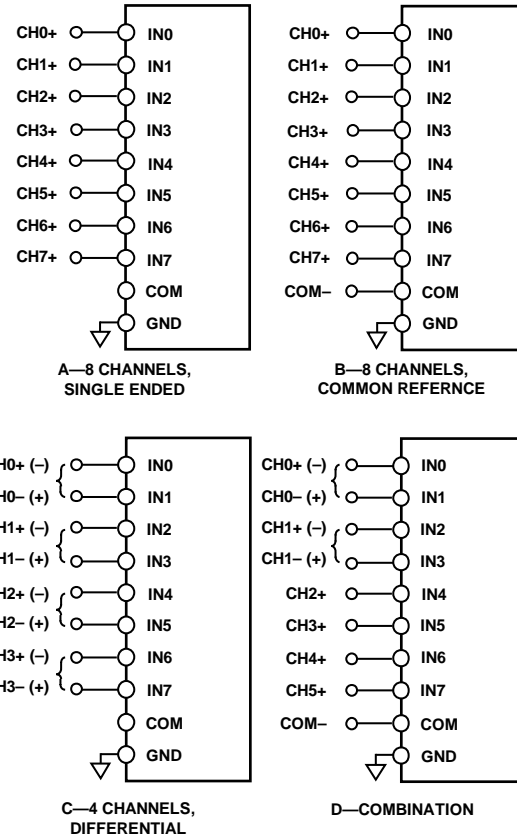

Figure 32. Multiplexed Analog Input Configurations
Figure 32 shows the different methods for configuring the analog inputs with the configuration register, CFG[12:10]. Refer to the Configuration Register, CFG section for more details.
- Figure 32 (A), single-ended referenced to system ground; CFG[12:10] = 1112. In this configuration, all inputs (IN[7:0]) have a range of GND to  $V_{REF}$ .
- Figure 32 (B), bipolar differential with a common reference point; COM =  $V_{REF}/2$ ; CFG[12:10] = 0102. Unipolar differential with COM connected to a ground sense; CFG[12:10] = 1102. In this configuration, all inputs IN[7:0] have a range of GND to  $V_{REF}$ .
- Figure 32 (C), bipolar differential pairs with the negative input channel referenced to  $V_{REF}/2$ ; CFG[12:10] = 00X2. Unipolar differential pairs with the negative input channel referenced to a ground sense; CFG[12:10] = 10X2. In these configurations, the positive input channels have the range of GND to  $V_{REF}$ . The negative input channels are a sense referred to  $V_{REF}/2$  for bipolar pairs, or GND for unipolar pairs. The positive channel is configured with CFG[9:7]. If CFG[9:7] is even, then IN0, IN2, IN4, and IN6 are used. If CFG[9:7] is odd, then IN1, IN3, IN5, and IN7 are used, as indicated by the channels with parentheses in Figure 32 (C). For example, for IN0/IN1 pairs with the positive channel on IN0, CFG[9:7] = 0002. For IN4/IN5 pairs with the positive channel on IN5, CFG[9:7] = 1012. Note that for the sequencer, detailed in the Channel Sequencer section, the positive channels are always IN0, IN2, IN4, and IN6.
- Figure 32 (D), inputs configured in any of the preceding combinations (showing that the AD7682/AD7689 can be configured dynamically).